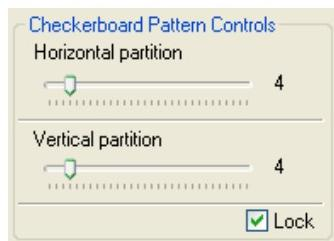

Figure 44: Checkerboard Pattern Controls
13. Click and drag the sliders for the Checkerboard Pattern controls to change the number of areas on the checkerboard. Refer to Figure 44.